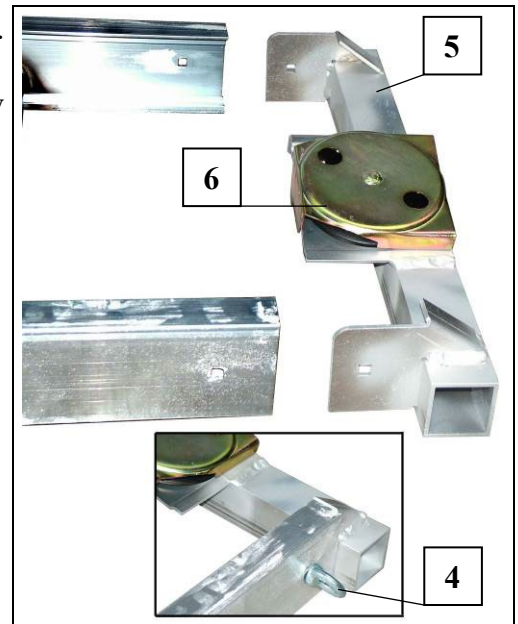

Fig. 19 Assemble head piece
- Position and screw in head section (5) at the end of the ladder part. - Rope sheave points up (see Fig. 19)